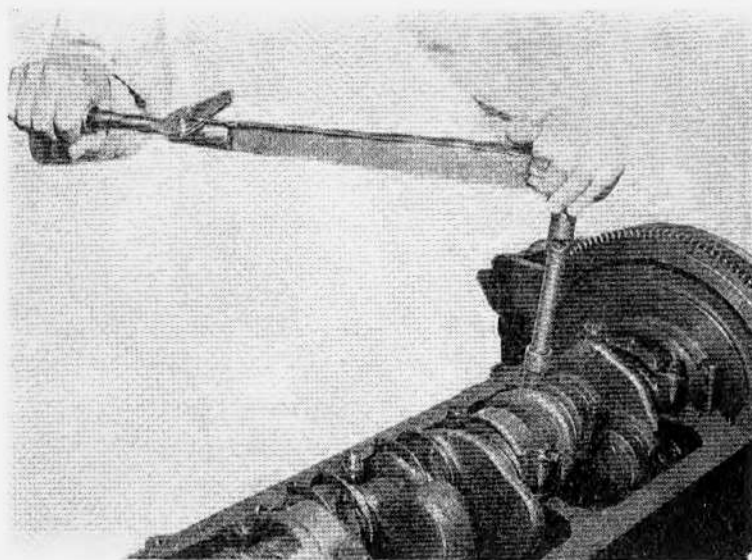

Figure 99 -- Tightening Retaining Bolts
- (4) Reinstall the bearing cap and evenly tighten the retaining bolts to 45~55 ft-lbs torque (Fig. 99).